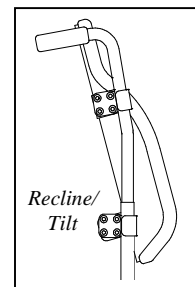

Figure 3
Recline/Tilt: By alternating the L-Brackets (D), the Back Shell (A) can be set at greater angle positions, which is displayed in Figure 3.